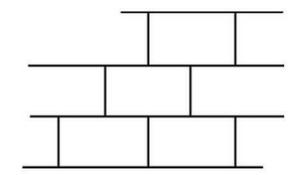

Figure 2
13. We needed a flat surface to work on and had to scrape off a lot of excess mortar in order to smooth down the wall. When the Building was built they may not have been able to access the western side of the wall because of the existing building being in the way. This may explain why the mortar that had spilled through had not been smoothed away (Figure 2).